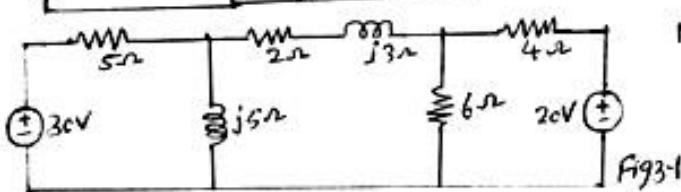

Fig 3.1
2. By the superposition theorem calculate the current through $(2+j3)\Omega$ impedance branch of the circuit shown in fig.3.1